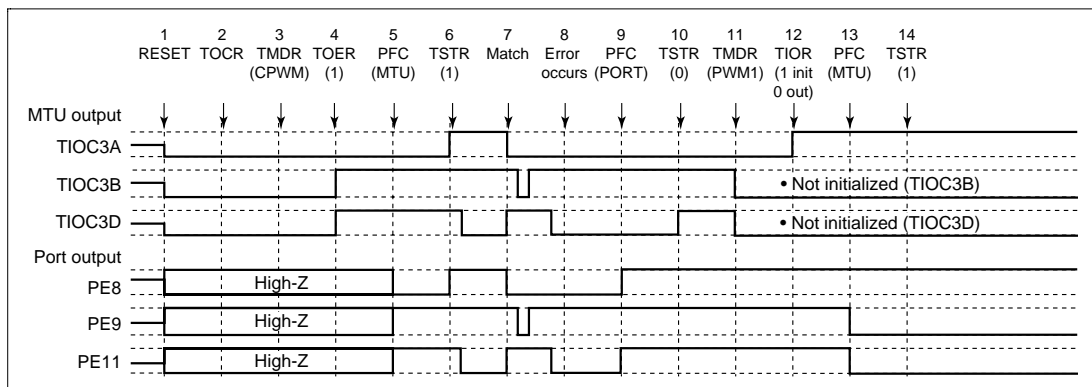

Figure 12.117 Error Occurrence in Complementary PWM Mode, Recovery in PWM Mode 1
(22) Operation when Error Occurs during Complementary PWM Mode Operation, and Operation is Restarted in PWM Mode 1: Figure 12.117 shows an explanatory diagram of the case where an error occurs in complementary PWM mode and operation is restarted in PWM mode 1 after re-setting.